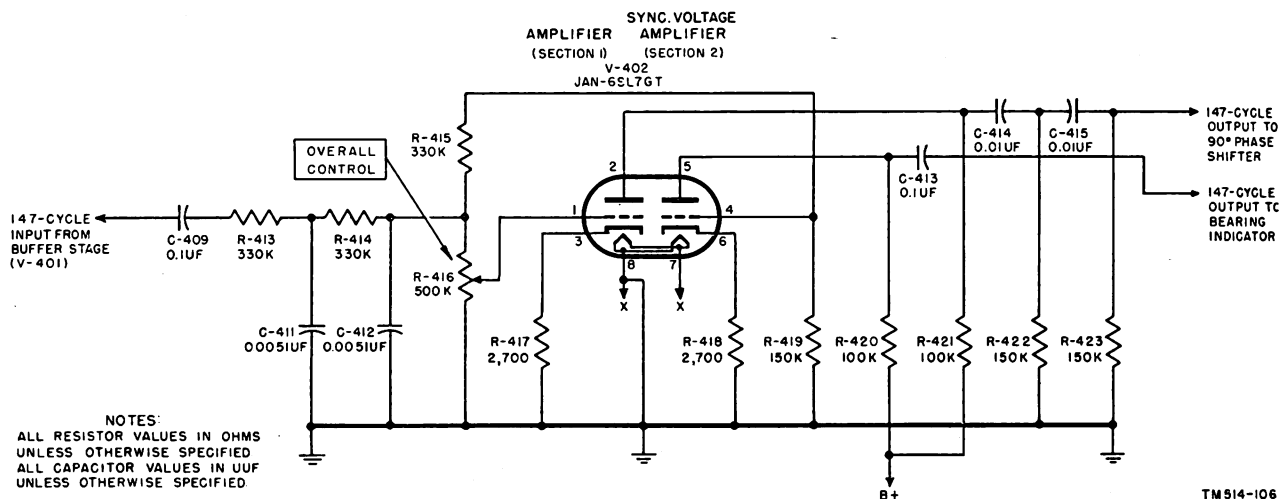

Figure 60. Modulating Voltage Generator O-15/CRD-2, amplifier and sync voltage amplifier stages, schematic diagram.
- (1) Resistors R-407 and R-408 in combination with capacitors C-405 and C-406 form a low-pass filter which discriminates against undesired harmonic energy in the 147-cps signal. Elimination of the harmonic content in this signal prevents distortion of the sinusoidal waveform desired for the output signal.
- (2) R-406 is the grid resistor, and R-405 is the cathode bias resistor. R-412 is the plate load resistance, and capacitor C-410 with resistor R-411 comprise another decoupling network.
75. Amplifier and Sync Voltage Amplifier (fig. 60)